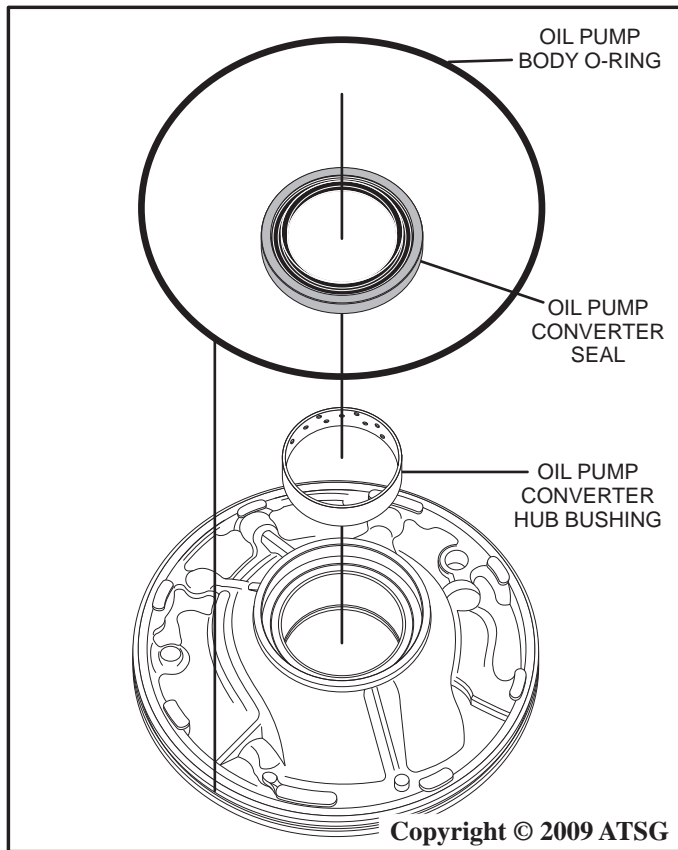

Figure 86
2. Remove the oil pump body o-ring and oil pump converter seal as shown in Figure 86.